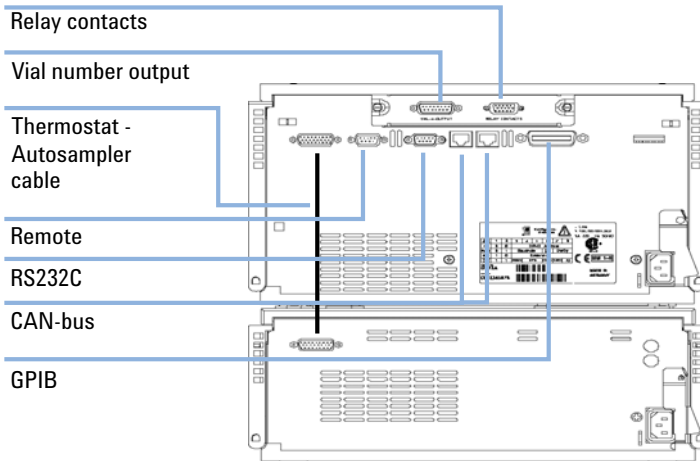

Figure 17 Cable Connections
- 9 Connect the cable between the Autosampler and the Thermostat, see Figure 17 on page 47.